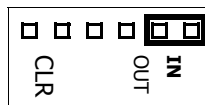

Fig. 1: "IN" Position.
2. Before installation, verify that the panel and Accelerator board are both working correctly. Verify that both the OK lamp (LED) on the Accelerator board and the heartbeat lamp on the motherboard (location T1) blink in unison once per second. Verify the MEMORY BACKUP CELL jumper is in the IN position providing memory data retention (see Fig. 1).